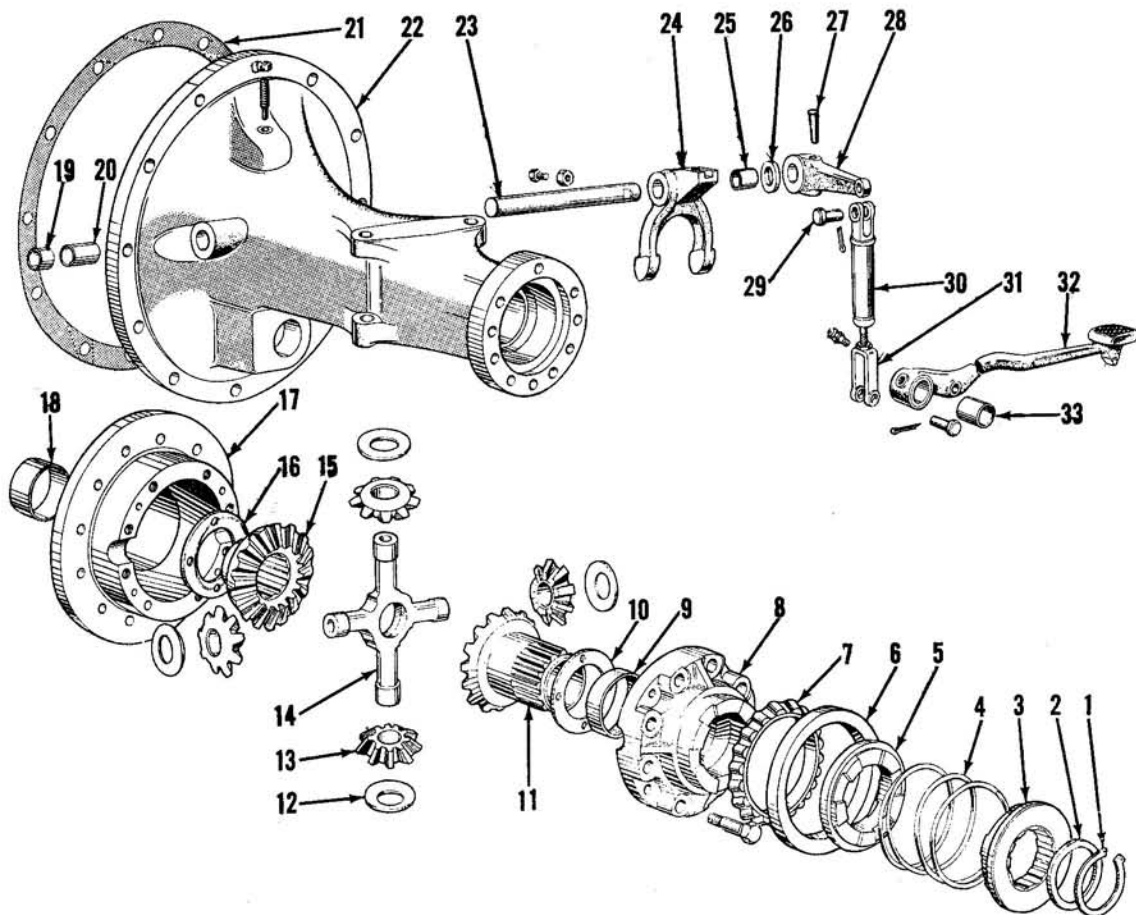

Fig. FO550B — Exploded view of differential lock and related parts.
**67. OVERHAUL.** After the differential unit has been removed from the tractor as outlined in paragraph 66, examine the two halves of the case and place correlation marks to aid in reassembly if they are not already present. If equipped with differential lock, remove the snap ring (1—Fig. FO550B), washer (2), sliding coupling (3), return spring (4) and coupling adapter (5). Remove the safety wire
**68. DIFFERENTIAL LOCK OPERATION AND ADJUSTMENT.** The differential lock consists of a dog type coupling which can be engaged to lock the right hand axle gear (11—Fig. FO550B) to the differential case. This results in both rear wheels being turned at the same speed, regardless of any difference in traction of the rear wheels.